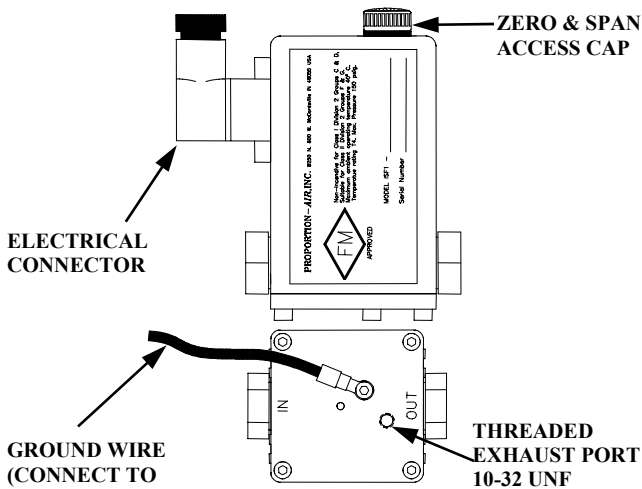
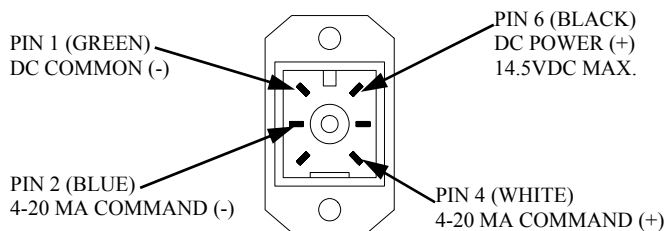

Figure 1
Figure 2
2. Connect supply pressure to the "IN" inlet port (figure 1) not to exceed rated supply pressure. (Table 1)
3. Connect the "OUT" outlet port (figure 1) to the device being controlled.
4. Media vents through exhaust port. If the media is hazardous (classified), the threaded exhaust port (figure 1) should be vented to a different location to maintain a Class I, Division 2 area at the ISF unit.
2. Figure 1 shows the location of the ISF1 electrical connector and figure 2 shows the connector. Table 2 identifies each connection
4. Connect ground wire to intrinsically safe ground (figure 1).
3. Provide supply pressure to the inlet port of the ISF1. (See figure 1). Make sure supply pressure does not exceed the rating for the valve. (see table 1)
4. Locate the calibration access cap on top of the ISF1 valve and locate the ZERO and SPAN adjustment potentiometers (figure 1).